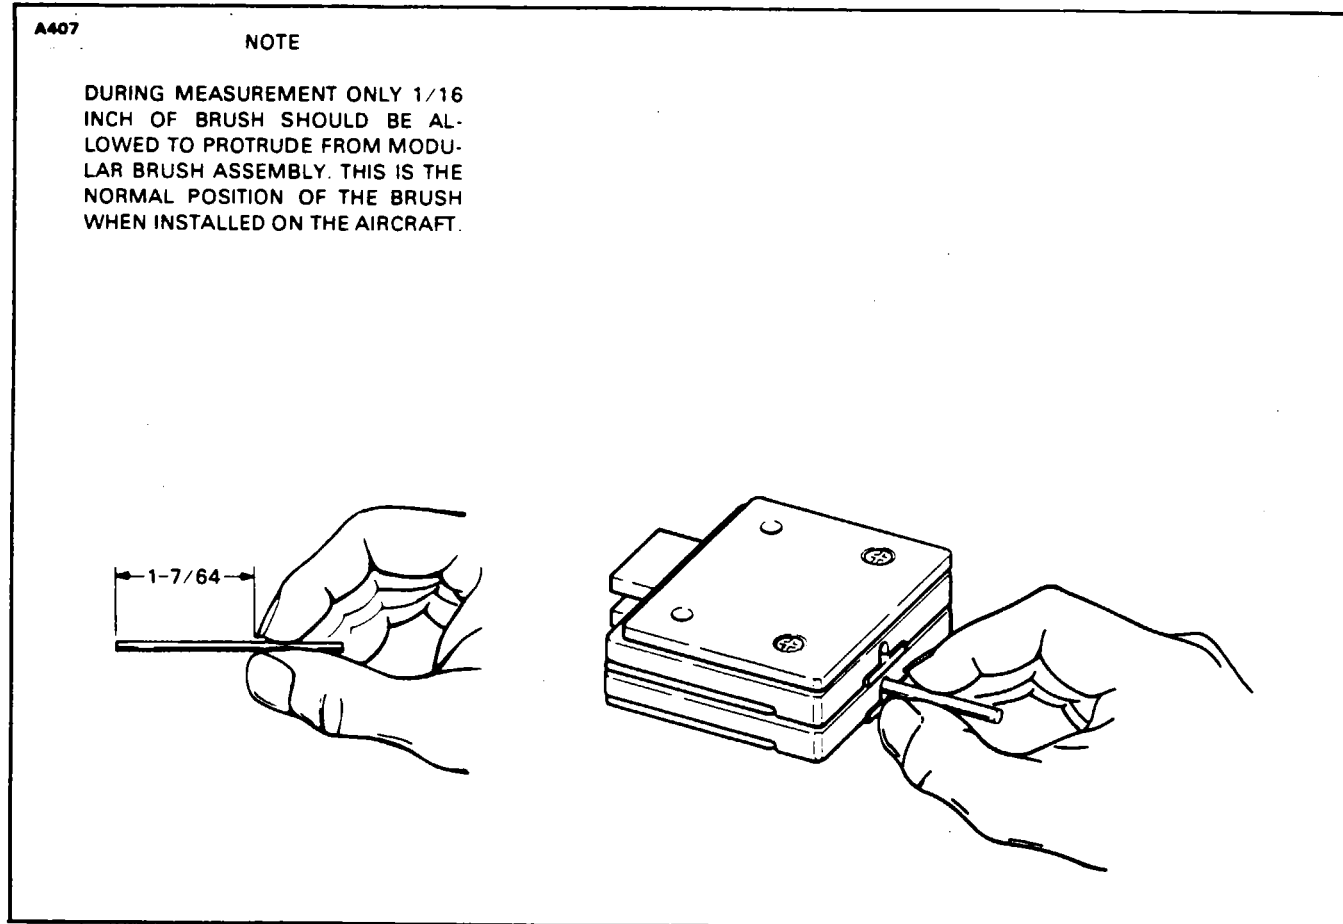

Figure 30-18. Modular Brush Assembly Wear Check
- C. Check brush block for wear limitation. Refer to Checking for Brush Wear and Figure 30-18.
Brushes are not offered, individually, as replacements. When a brush wears out, the entire brush module must be replaced. Refer to Figure 30-18 for procedure to use in determining brush wear.